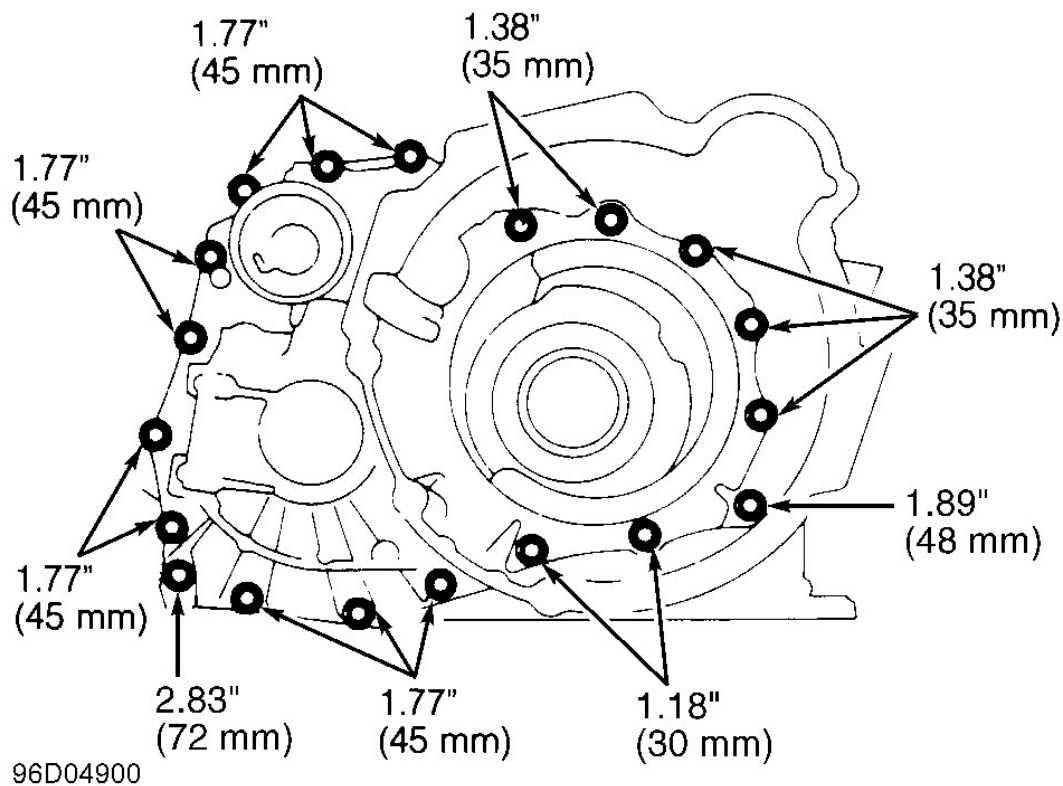
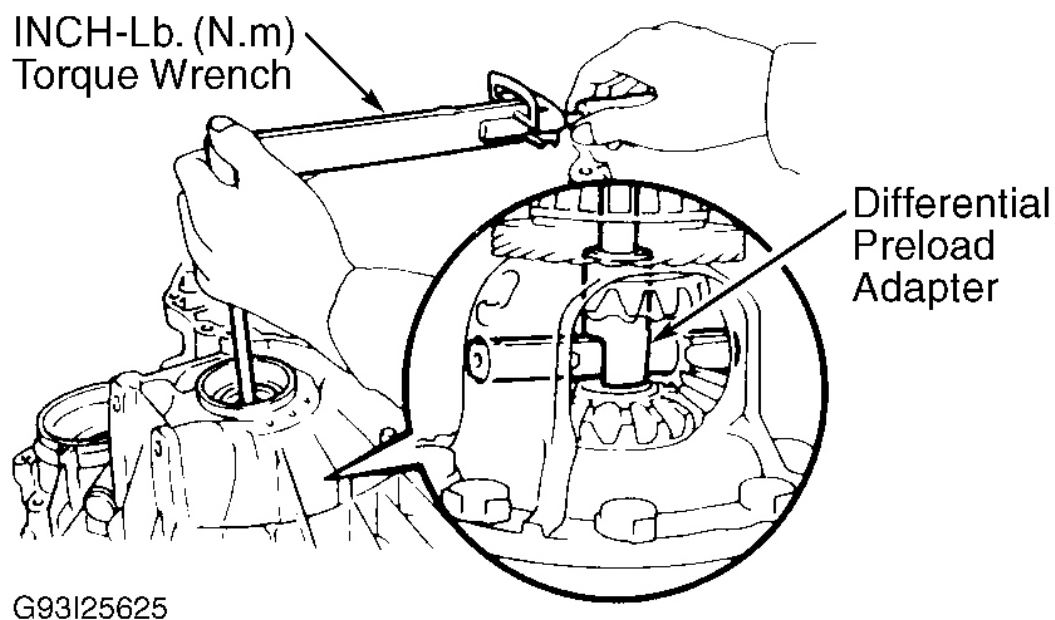

Fig. 71: Installing Transaxle Housing Bolts (A-242L)
Fig. 74: Measuring Differential Bearing Preload
4. Install differential in transaxle case. Install transaxle housing. Install bolts in correct locations and tighten bolts to 21 ft. lbs. (29 N.m). See **Fig. 71** -72. Measure differential bearing preload, using Differential Preload Adapter (09564-32011) and an INCH-lb. torque wrench. See **Fig. 74** .
26. Install differential. Apply gasket sealer (Loctite 518 or equivalent) to transaxle housing. Install transaxle housing. Install mounting bolts in original locations. See **Fig. 71**. Tighten bolts to 21 ft. lbs. (29 N.m). Check differential side bearing preload. See **DIFFERENTIAL** under COMPONENT DISASSEMBLY & REASSEMBLY.